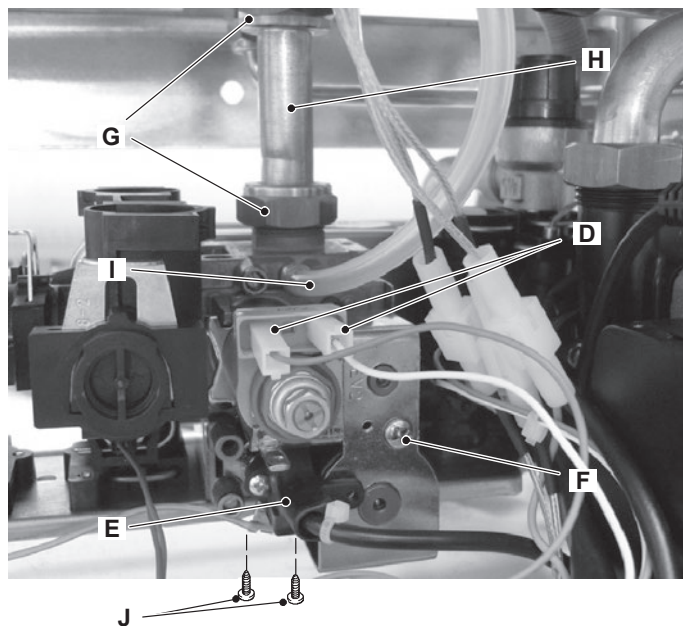

Figure 11.5
- 2 Disconnect the connectors D (Figure 11.5) from the modulating operator and measure the electrical resistance of the coil. Its electrical resistance value must be approx. 80 Ω^* .
- 2 Disconnect the electrical connector E (Figure 11.5).
- 2 Disconnect the connector E (Figure 11.5).
- 2 Disconnect the connectors D and E (Figure 11.5).